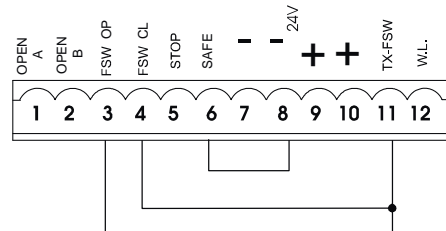

Fig. 26
N.B.: if safety devices are not used, jumper connect the terminals as shown in fig 26.
NB.: If no opening safety devices are connected, jumper connect inputs **FSW OP** and **-TX FSW** (fig. 26).
NB.: If no closing safety devices are connected, jumper connect terminals **FSW CL** and **-TX FSW** (fig. 26).
NB.: If edge safety devices are not connected, jumper connect the **SAFE** and **-** inputs (fig. 26).